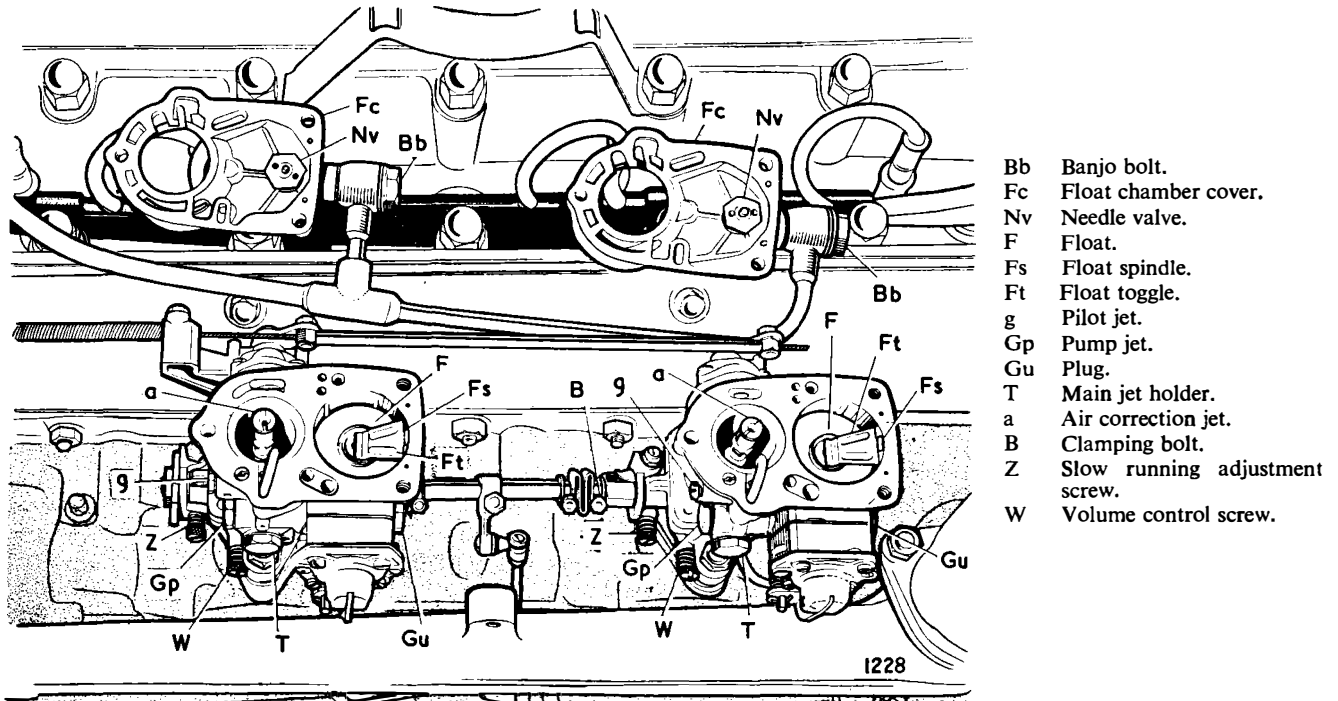

Fig. 5. View of the carburetters with float chamber covers removed.
Remove the air cleaner. Unscrew banjo bolts (Bb) (Fig. 5) and remove filter gauzes.
Each carburettor has two external adjustments, the slow-running adjustment screw (Z) (Fig. 5) and mixture volume control screw (W).
- (1) Switch off the engine and loosen the clamping bolt (B) on the flexible link between the carburetters. Each instrument should now be separately adjusted. Starting with the front carburettor :—
- (2) Unscrew the screw (Z), and ensure the throttle is closed by manual pressure on the slow running screw. Insert a .002" feeler (or strip of paper) between screw (Z) and the casting stop, screw in (Z) until feeler or paper is lightly nipped. Remove feeler and screw in (Z) one further complete turn from this point.